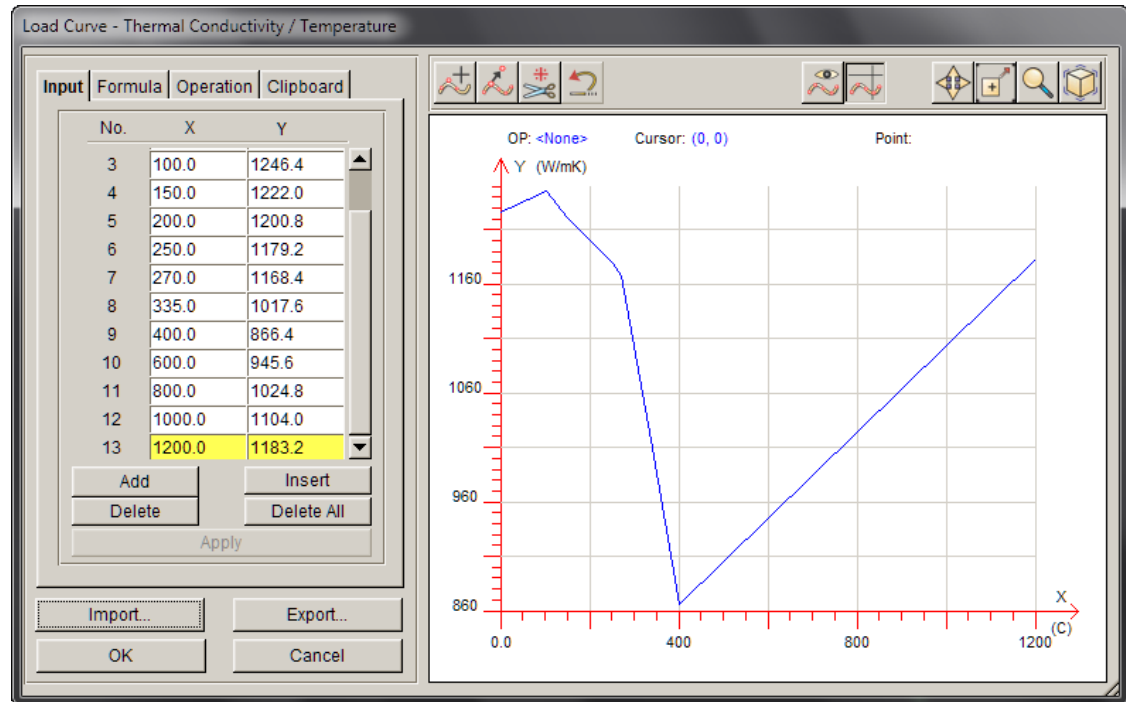

Figure 42
11. The result is shown in Figure 42.